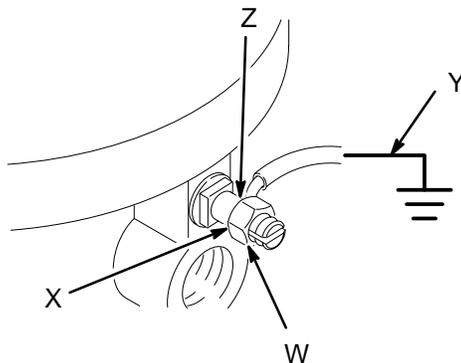

Fig. 1
- *Pump:* Use the ground wire and clamp. See Fig. 1. Loosen the grounding lug locknut (W) and washer (X). Insert one end of the ground wire (Y) into the slot in the lug (Z), and tighten the locknut securely. Connect the other end of the wire to a true earth ground.